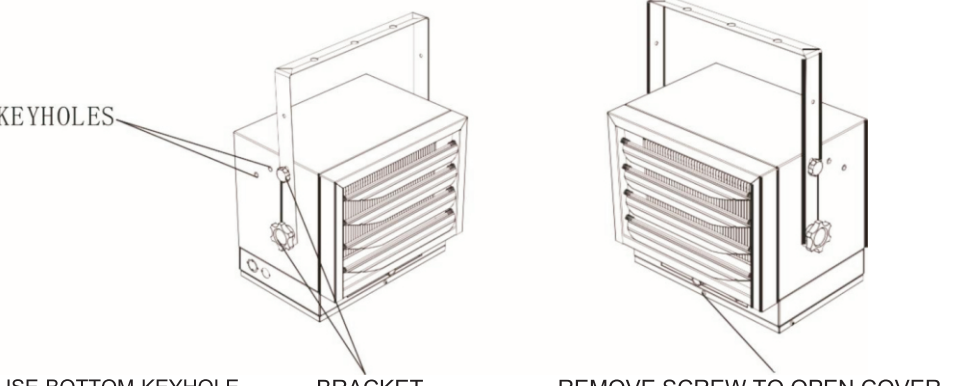
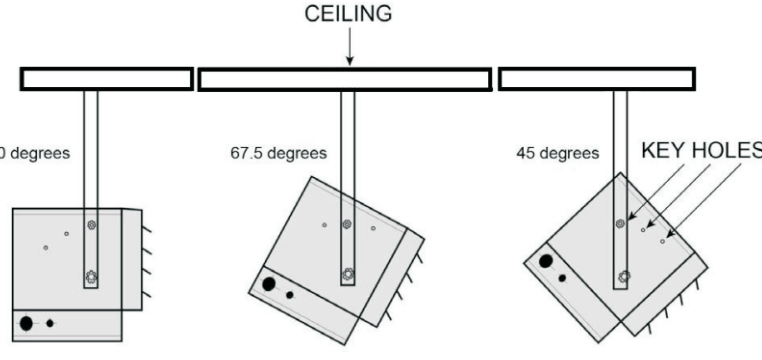

Figure 4
Figure 6
- If the heater is to be tilted, it must be positioned in the keyhole slots. (see figure 4).
- To tilt the unit vertically, loosen the bracket screws (see figure 4) and see figure 6 to view multiple vertical angles.